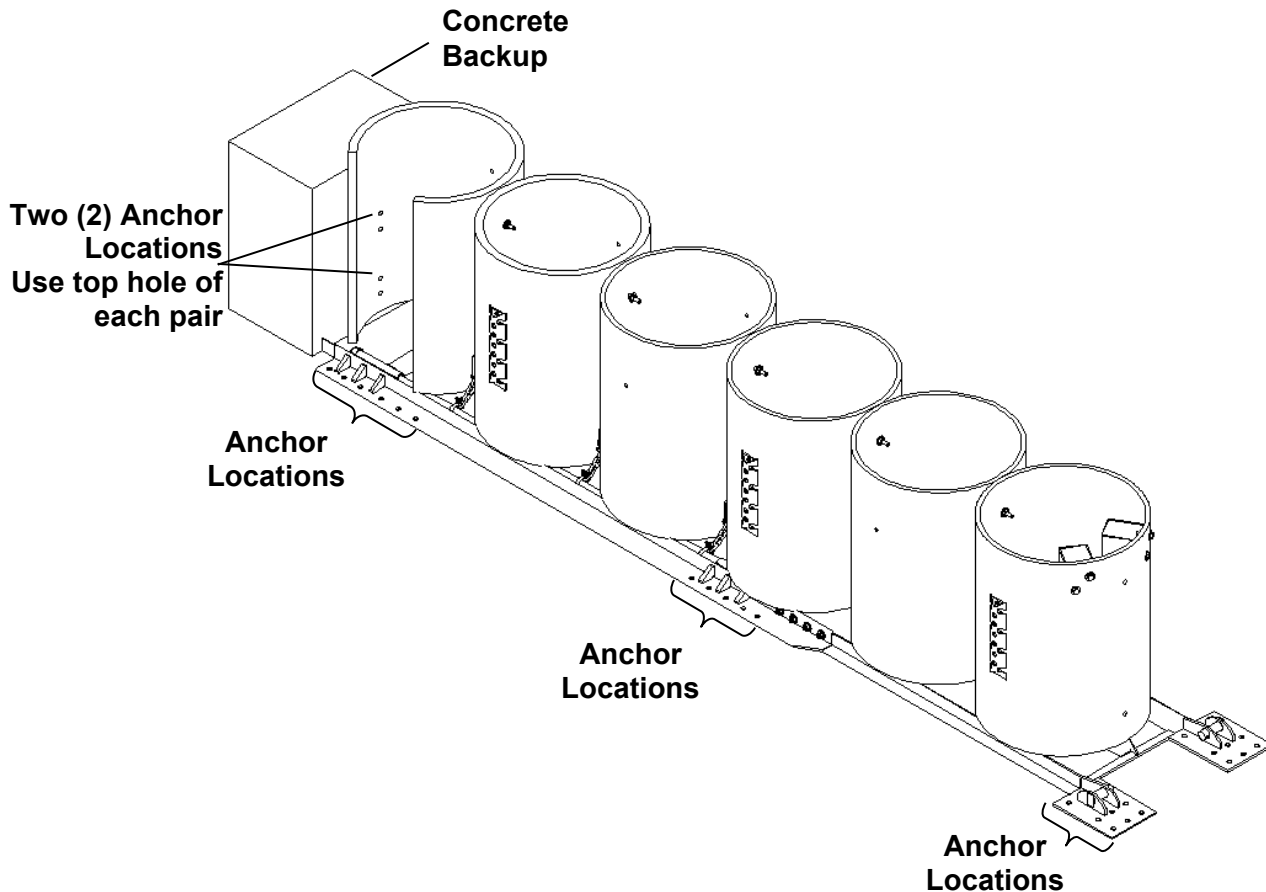

Figure 19 - Anchoring the System - Concrete Backup
Use the top holes of each pair in the Rear Cylinder as a template to locate and drill two (2) holes, 7/8" [22 mm] diameter x 6" [150 mm] deep into the Concrete Backup (Figure 19). Use an approved adhesive kit with instructions to secure the 3/4" diameter x 7 1/2" long studs using instructions included with kit (p. 8). After adhesive has cured, use 3/4" nuts and flat washers included with the approved adhesive kit to attach the Cylinder Assembly to the Concrete Backup (Figure 19).
Use the holes in the Base Track as a template to locate and drill holes, 7/8" [22 mm] diameter x 6" [150 mm] deep into the concrete pad or roadway surface (Figure 19). Use approved adhesive kits to attach 3/4" diameter x 7 1/2" long studs using instructions included with kit (p. 8). After adhesive has cured, use 3/4" flat washers and nuts provided with kit to anchor Base Track to foundation.